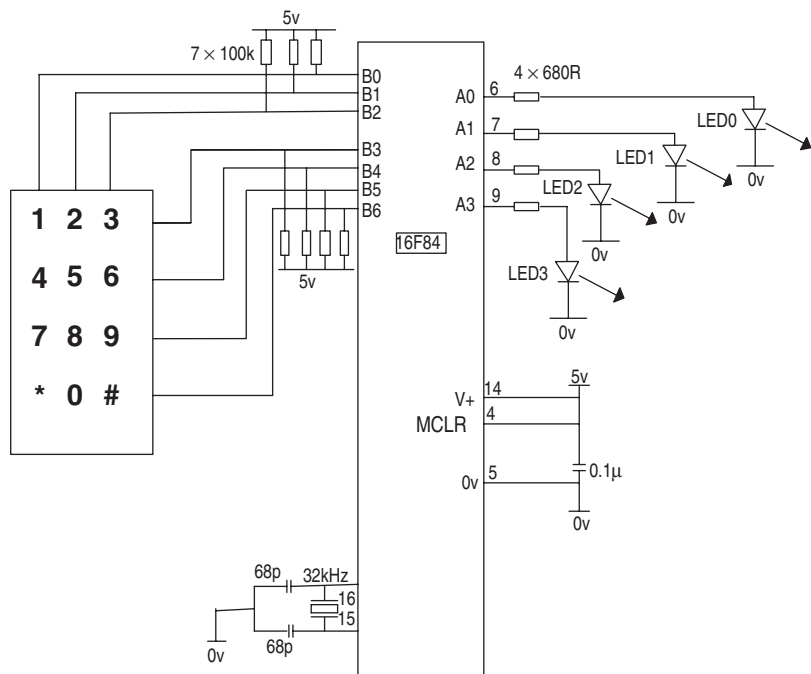

Figure 7.1 Keypad connection to the microcontroller
This connection to the micro is shown in Figure 7.1.
If for example key 6 is pressed then B2 will be joined to B4. For key 1 B0 would be joined to B3 etc. as shown in Figure 7.1.
PORTB has internal pull up resistors so that the resistors connected to PORTB in Figure 7.1 are not required.